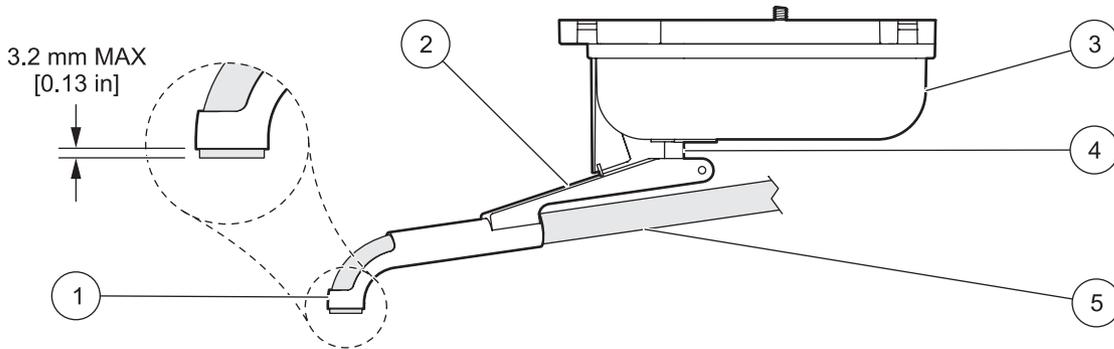

Figure 28 Distributor assembly
2. Insert the new tubing into the distributor arm so that the end of the tubing extends out of the nozzle no more than 1/8 inch (Figure 28).